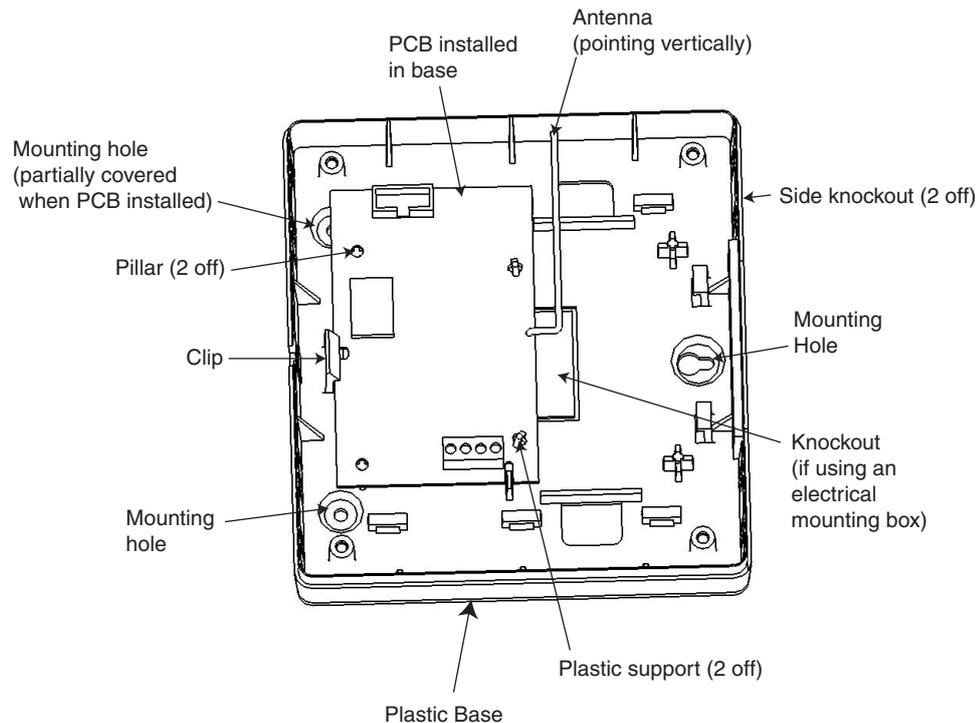

Figure 26. Plastic Base with PCB Installed
- The plastic base must be mounted so that when the PCB is installed, the antenna will point vertically (see **Figure 26, Plastic Base with PCB Installed**)